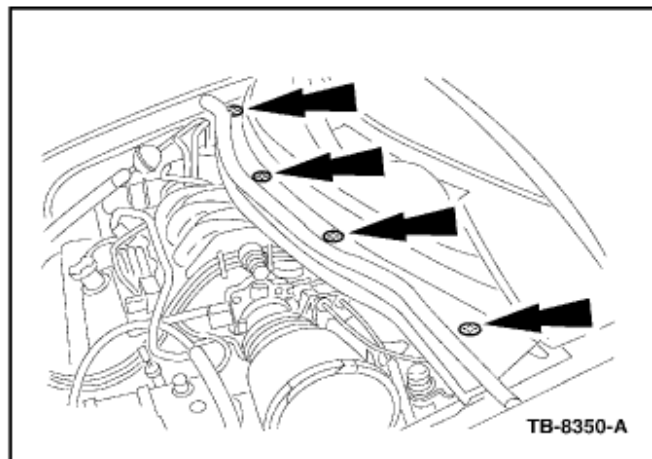

Figure 4
2. Remove the screws. (Figure 4)